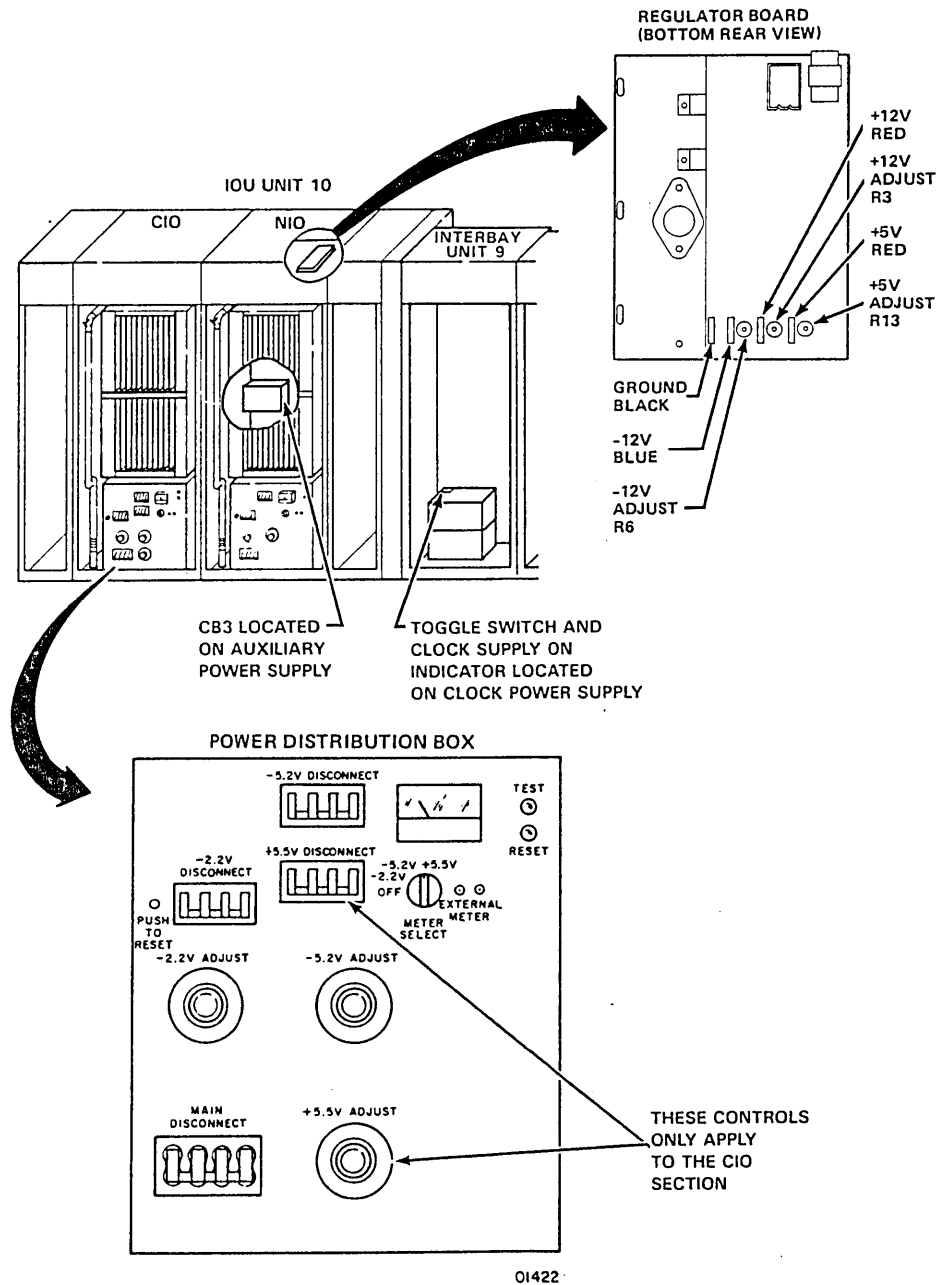

Figure 4-25. IOU Power Controls and Adjustments
- ___ 2. Apply CIO cabinet power by sequentially setting section circuit breakers (figure 4-25) as follows: